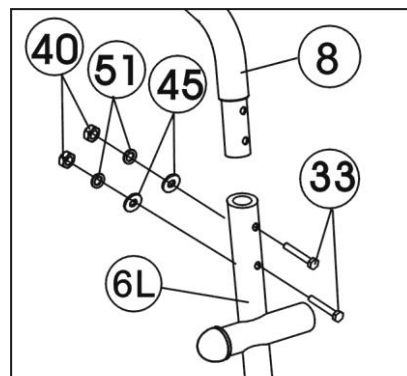

Figure 9
Insert the Left handlebar (8) to the Left Handlebar support (6L) with four sets of M8x40 Bolts (33),  $\Phi$ 8 Arc washers (45),  $\Phi$ 8 Spring washers (51), and M8 Cap nuts (40). Do the above same steps to assemble the Right handlebar (11) to the right Handlebar support (6R). (Refer figure 9)